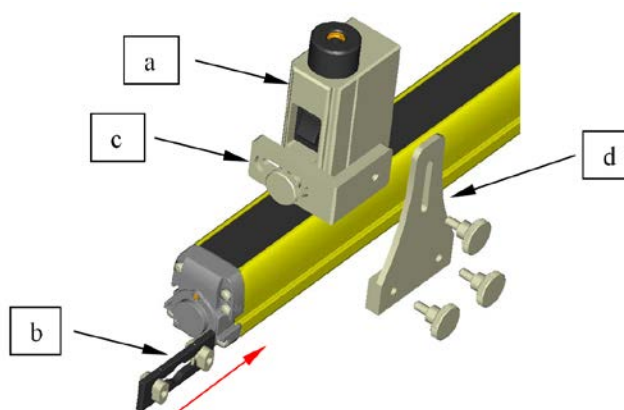
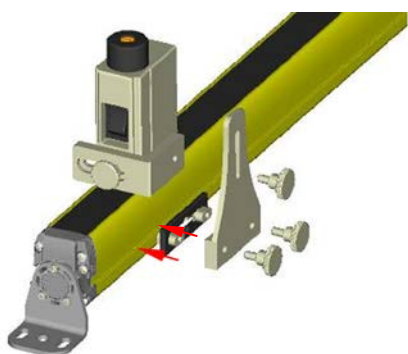
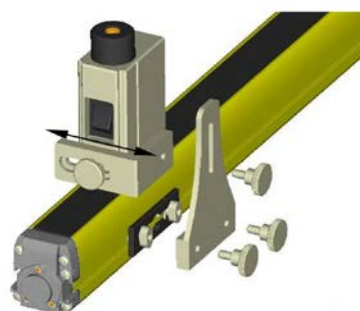

Figure 2
Figure 3
Figure 4
- Insert the “b” ensemble inside the lateral groove keeping the couple of cams in vertical position (Figure 2) until the right position is reached. See Figure 4.
1. Insert the “b” ensemble abutting on the curtain side corresponding to the lateral groove. Keep the couple of cams in horizontal position (Figure 3) and after they have entered the groove, rotate them 90°. See Figure 4.
3. Fix the “c” bracket to the “a” ensemble using one of the four knurled knobs, without tightening it completely in order to allow the mutual adjustment between “c” bracket and the laser pointer itself. See Figure 4.